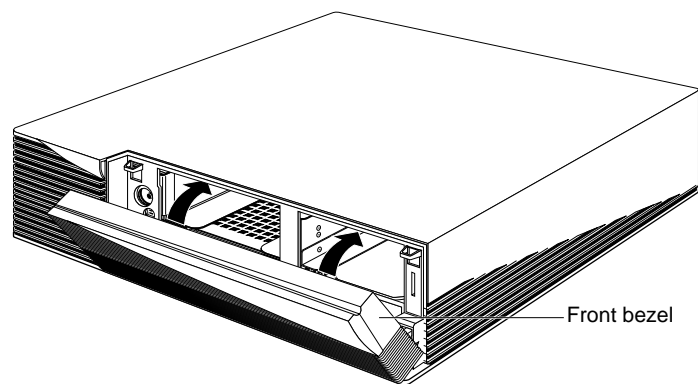

Figure 8-46 Replacing the Front Bezel on the Indigo² Chassis
- Place the tabs on the bottom of the bezel in the grooves in the front of the chassis, as shown in Figure 8-46.